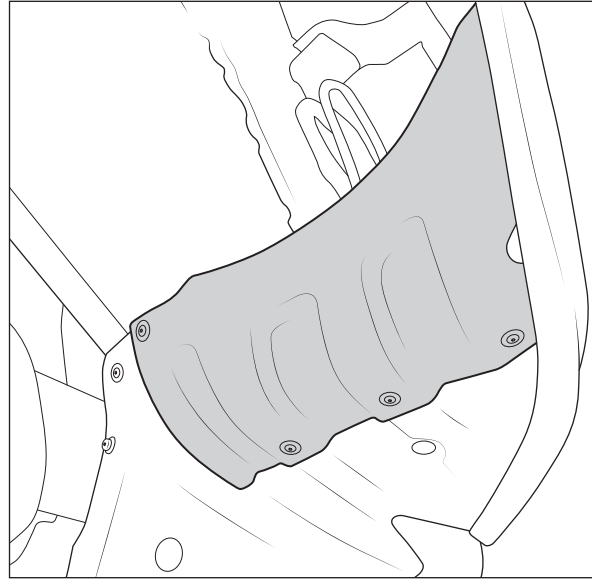

Figure 12
- F. Install AEV closeout panel included in kit with QTY 4 M4 bolts (fig. 12).